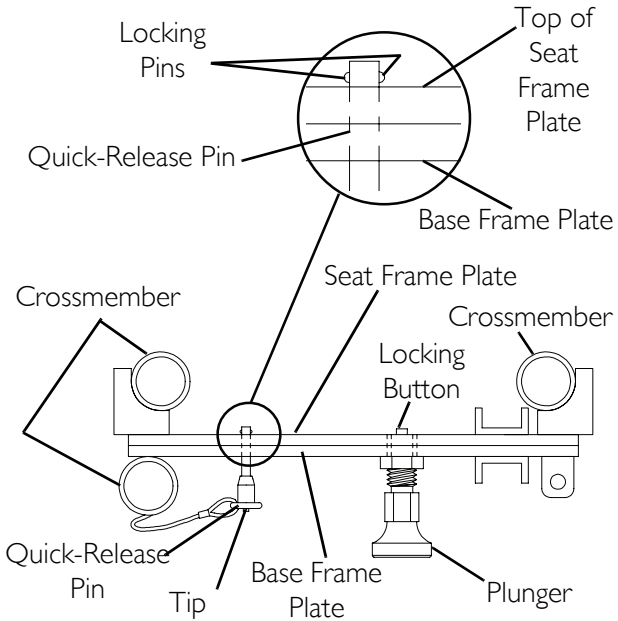

FIGURE 4.1 Assembling/Disassembling the Removable Orbit Wheelchair
NOTE: For this procedure, refer to FIGURE 4.1 on page 29.
5. Turn the plungers located on the underside of the base frame plate until an audible click is heard. See Detail "A" of FIGURE 4.1.
10. Push in on the tip of the quick-release pin and reinstall in the seat/base frame plate assembly. See Detail "A" of FIGURE 4.1.
3. Pull down and turn plungers located on underside of base frame plate. See Detail "A" of FIGURE 4.1.
4. Push in on the tip of the quick release pin located on underside of base frame plate and pull out of seat/base frame plate assembly. See Detail "A" of FIGURE 4.1.